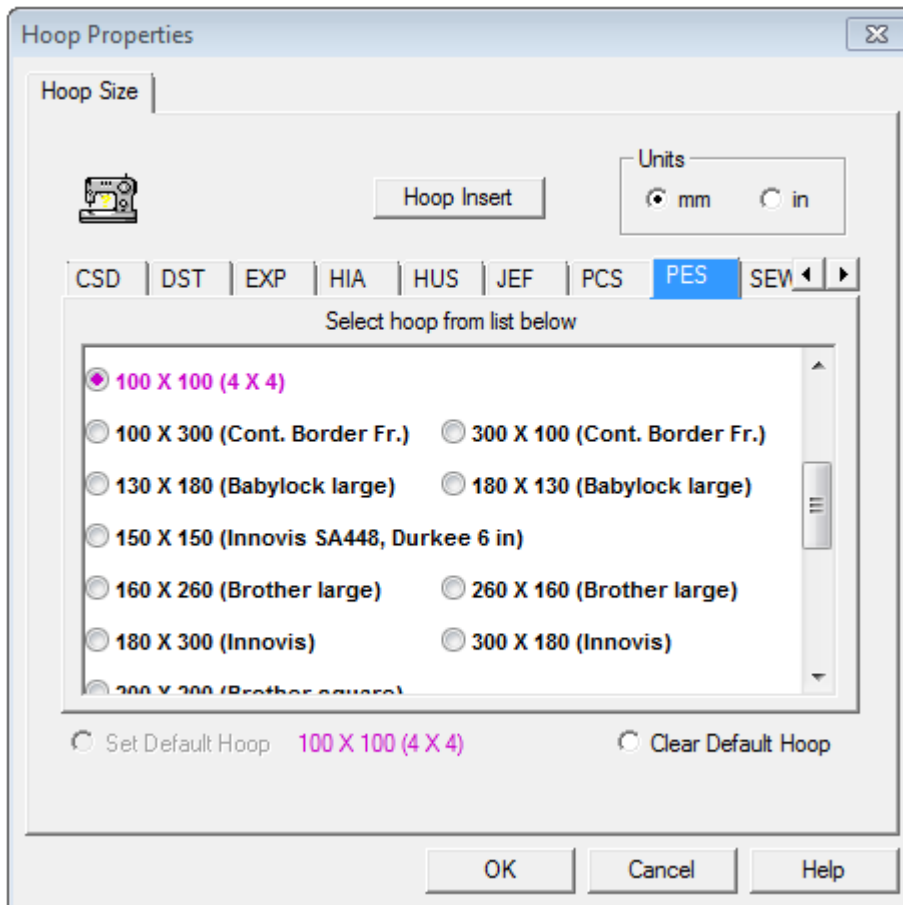

Figure 1 Dialog displayed by clicking the "Hoop Size" tab
- The tabs (see Fig. 1) allow you to select the hoop size associated with the embroidery file type. Use the horizontal scroll buttons to find the desired hoop type if it is not displayed. Click on the hoop type tab to open the list of available hoops for that hoop type. In Fig.1, *VIP* is the selected hoop type. You can use the vertical scrollbar (to the right of the hoop list) to display the complete list of hoop sizes. Select the desired hoop size by clicking on